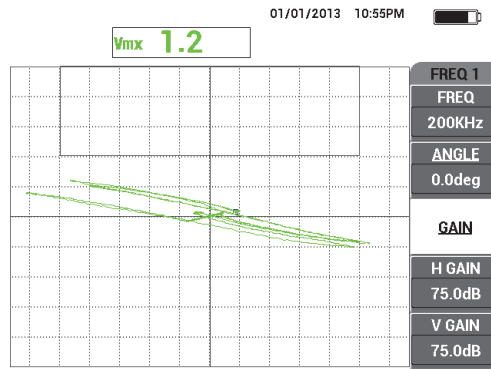

Figure 5-55 The signals extending across the screen
- Scan the standard using a back-and-forth motion, press the **GAIN** key (**dB**), and then adjust the signal amplitude (with the knob) until the signals extend across approximately 80 % of the screen width (see Figure 5-55 on page 168).